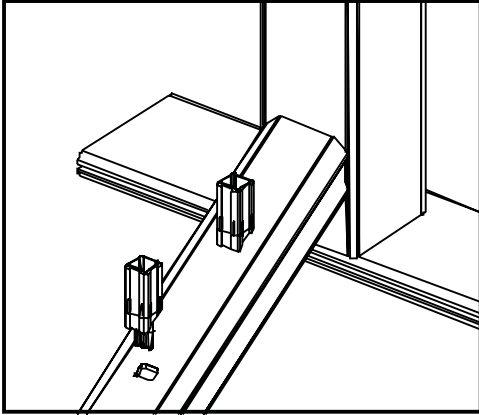

Figure 29
18. Fully engage the baluster inserts into the routed holes of the bottom rail (Figure 29).